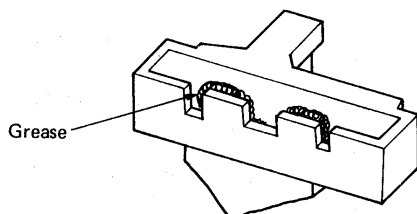

Fig. 18
6. After replacing the knob, apply grease as shown in Fig 18.